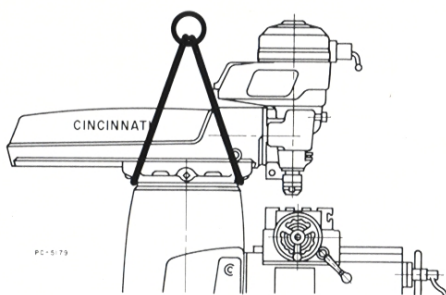

Figure 10
**Lifting the Machine.** The Toolmaster machines may be lifted by a crane with a rope or cable sling around the overarm turret (Figure 10). Tighten the turret and overarm clamping bolts before lifting.